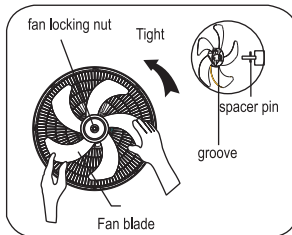

Figure 5
6. Let the notch on the back of the big fan blade stuck in the stopper pin of the motor shaft, and then tighten the small fan blade counterclockwise. (See Figure 5)